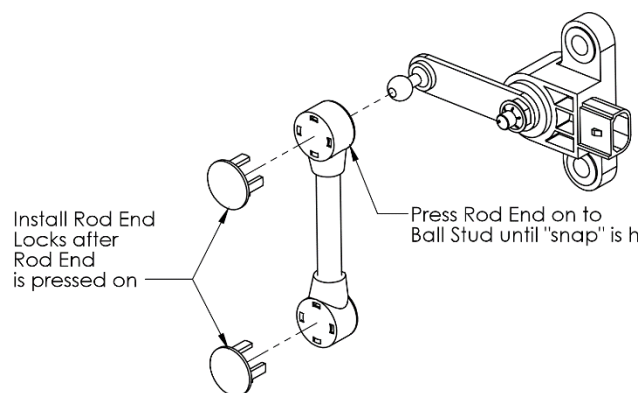

Figure 28. Sensor Plastic Linkage End Installation
8. Snap the Linkage Assembly to the Steering Linkage Mount and to the ball stud on the sensor arm. Refer to **Figure 28** or **Figure 29** for detail of linkage.